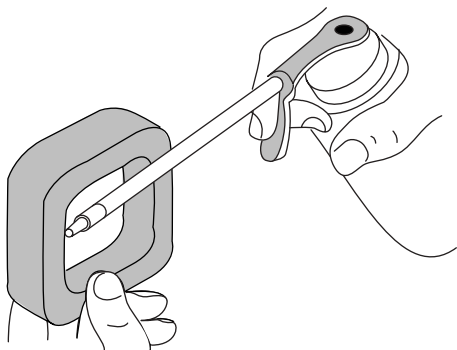

Fig. 63
4. Apply enough clean SAE 30 motor oil to lightly coat the filter (Fig. 63).